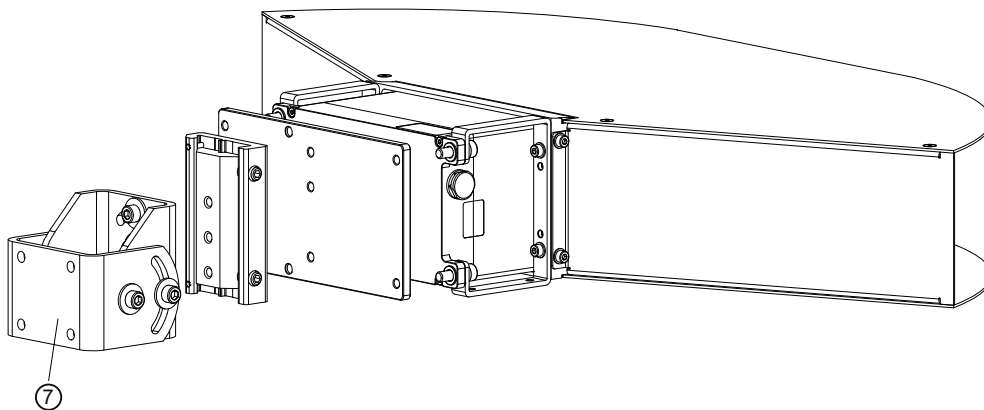

Fig. 4-4: Mount the LD-MRS on the weather resistant cover Part No. 2058033 and on the holder Part No. 1047429
1. Mount retention brackets 1 and 2 on the body with the frame; see versions 1 or 2 in Fig. 4-4.